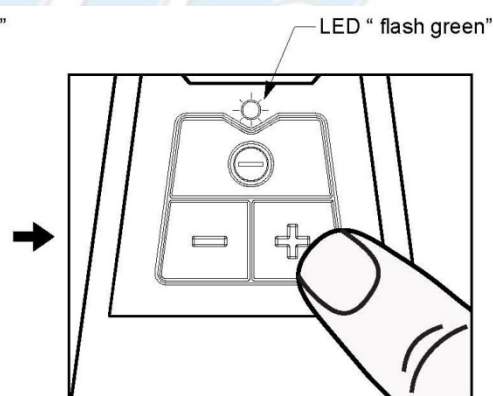

figure 3
3. Adjust the speed by pressing " + " or " - " buttons on the button plate. Press " + " is to raise up to higher speed setting, " - " is to lower the speed setting. - see figure 3.